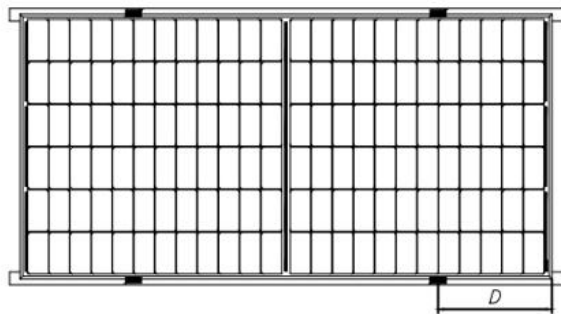

Fig.3 Rails overlapping the long-side frame
When PV modules are installed, each PV module must be fixed with at least 4 presses, as shown in Figures 3 、 4、 5、 6.
- ⑩ For the mounting shown in Figure 3, the overlap between the C surface of the module and the rail should be $\geq 25\text{mm}$. Astronergy's limited warranty will be void if improper clamps or improper installation is used.